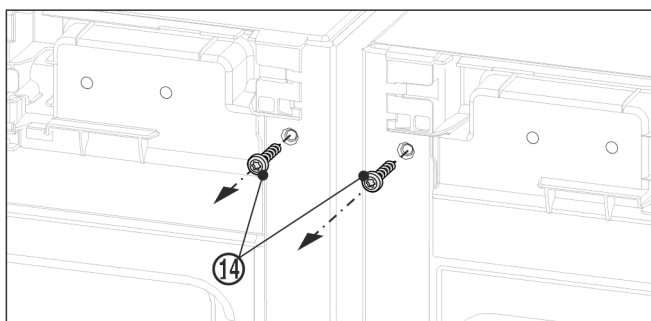

Fig. 11
- Before fitting the top bracket remove both earthing screws Fig. 11 (14).